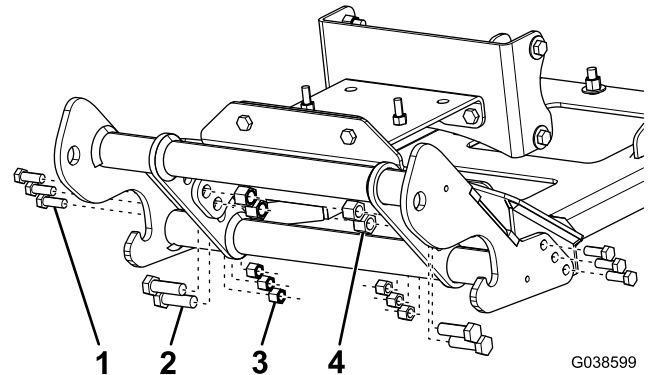

Figure 6
9. Mount the pushbeam to the plow skid plate using 4 bolts (1/2 inch), 4 locknuts (1/2 inch), 6 bolts (3/8 x 1 inch), and 6 locknuts (3/8 inch) as shown in Figure 6.